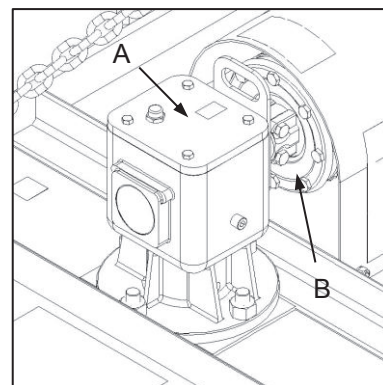

Fig. 5
- ✓ Discolouration or blistering of painted surfaces of the friction clutch housing (Fig. 5-B).
- ✓ The friction clutch housing feels significantly hotter than the surface of the gearbox casing (Fig. 5-A).
- ✓ Verkleuring of blaasvorming van geverfde oppervlakke van die wrywingkoppelaaromhulsel (Fig. 5-B).
- ✓ Die wrywingkoppelaaromhulsel voel beduidend warmer as die ratkasomhulsel (Fig. 5-A).